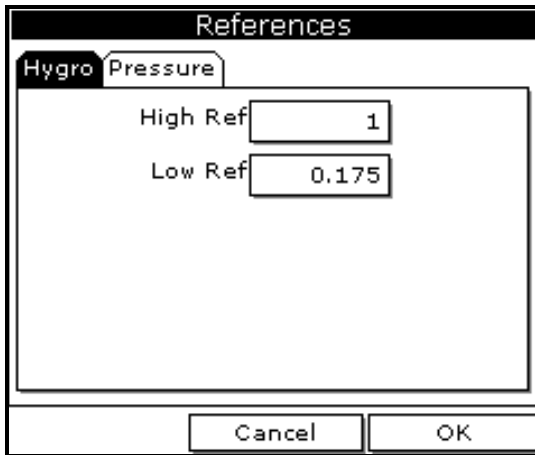

Figure 30: References Window
3. Use the arrow keys to scroll to **References** and press [ENTER]. The screen appears similar to Figure 30.